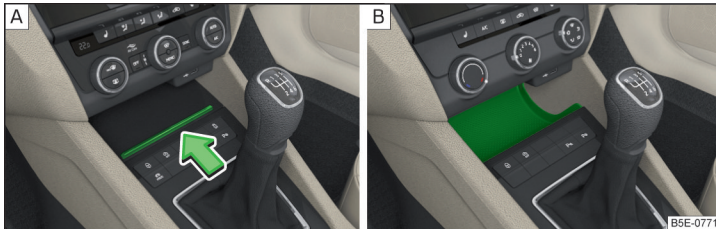

Fig. 100 Opening storage compartment/ non-lockable storage compartment
- To open, press the ridge in the direction of arrow » Fig. 100 - [A].
Certain models do not have a storage compartment lid » Fig. 100 - [B].